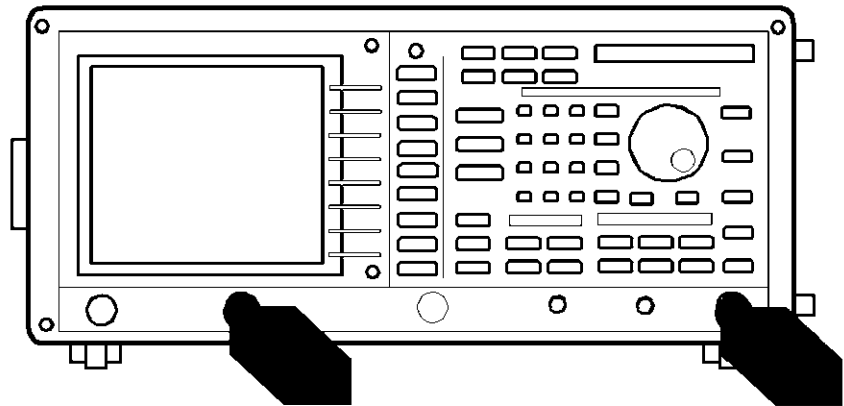

Figure 5-27 Setup of TG Leakage Test
1. Connect the terminators as shown in Figure 5-27.